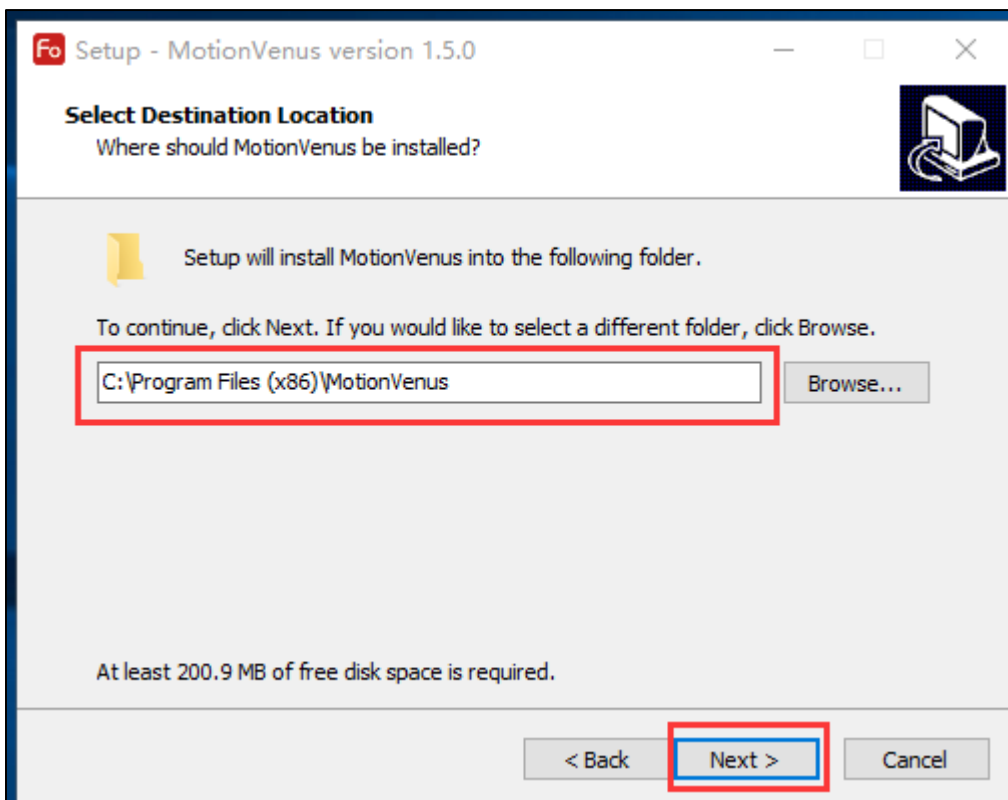

Fig3.1.3. Installation page 3
- (3) select the installation directory. Click "next" to go to the next page. Note: installation directory does not appear in Chinese characters. As shown in figure 3.1.3. This page will appear when you install the software for the first time or after uninstalling the software. If you upgrade the software or install different versions, this page will not appear.